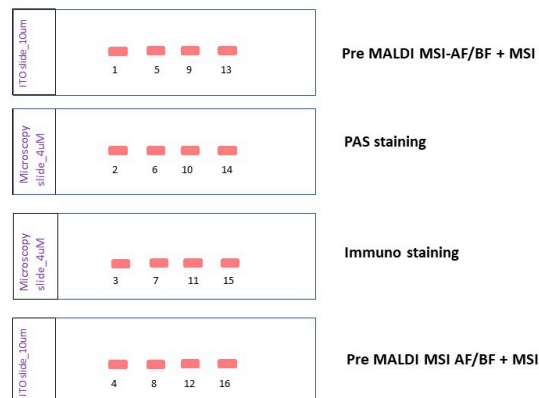

Figure 6. Serial sectioning sandwich model protocol for MALDI-MS and histological imaging.
- 3 Thaw-mount in sequential order as outlined in Figure 6. Dry the sections immediately after sectioning in the cryostat chamber. Each slide will be marked with a number via a scribe.